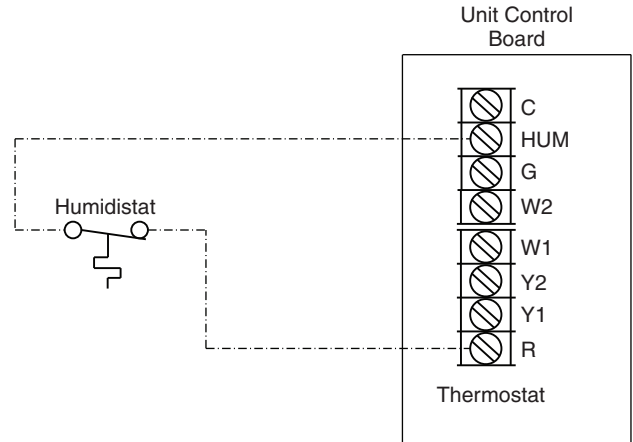

Fig. 42 — Humidistat Connections to UCB
3. Connect one of the leads from the 2-conductor cable to the HUM terminal on the UCB (Unit Control Board). Connect the other lead to the R terminal on the UCB. See Fig. 42.